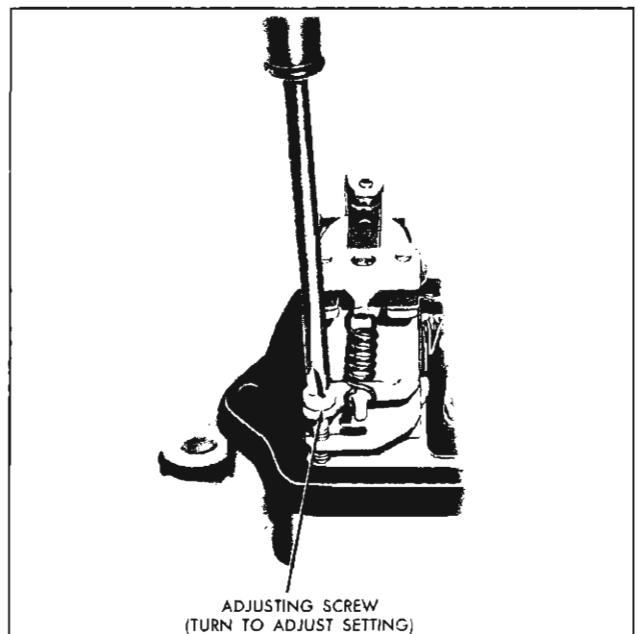

Fig. 22—Adjusting Voltage Setting
4. To adjust voltage setting, remove cover and turn screw on back of regulator unit as shown in Figure 22.